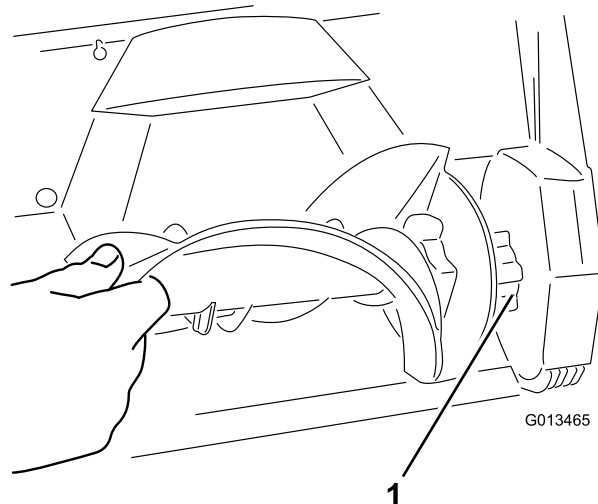

Figure 17
4. Install the new rotor by inserting the end of the rotor onto the fitted end in the housing and rotating the rotor until it snaps into place (Figure 17).